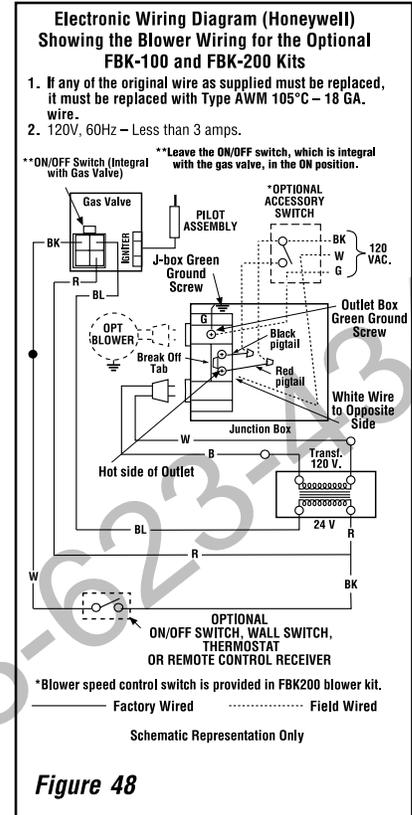

Figure 48
B. Electronic Wiring (See figure 48 or 49) –
3. Connect the power supply wires (including the ground supply wire) as shown in **Figures 48 or 49.** (If the field-provided J-box/outlet box is being used, all of the outlet box wiring must be field-provided.)
Note: The gas valve-mounted ON/OFF switch is shown in Figure 48 or 49. It is integral with the gas valve and should be set to the ON position.
IMPORTANT: Ground lead must be connected to the green screw located on the outlet box. See Figure 48 or 49. Failure to do so will result in a potential safety hazard. The appliance must be electrically grounded in accordance with local codes or, in the absence of local codes, the National Electrical Code, ANSI/NFPA 70-(latest edition). (In Canada, the current CSA C22-1 Canadian Electrical Code.)